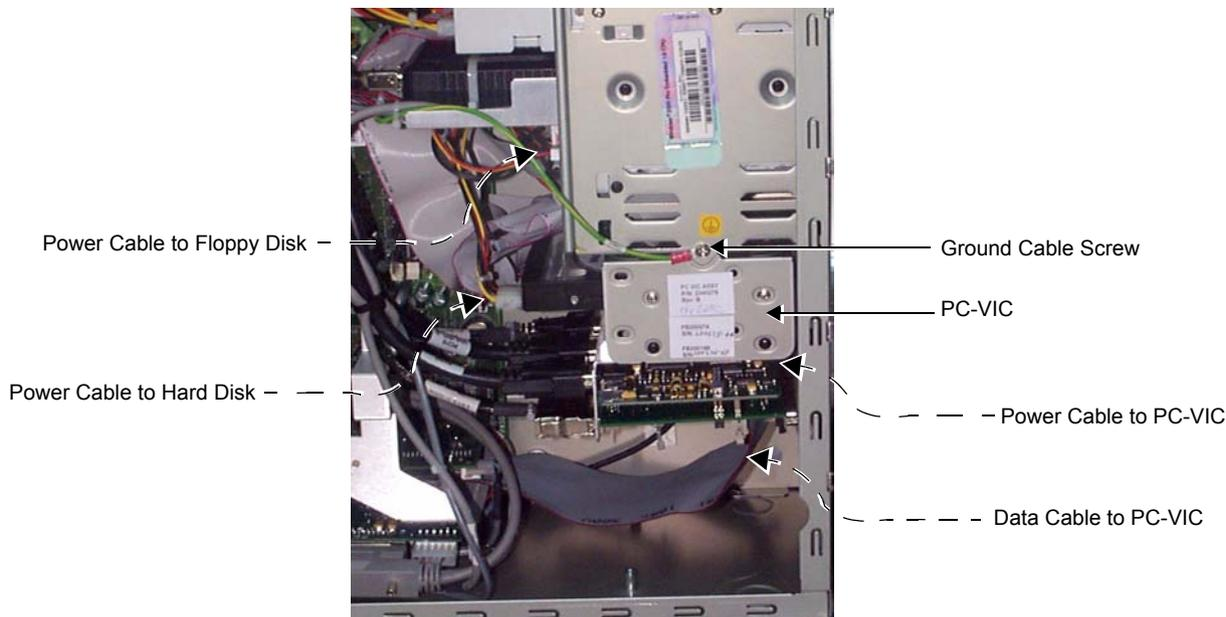

Figure 8-62 Disconnecting Cables
13.) Remove the screw that fastens the Ground cable and PC-VIC in position, as shown in Figure 8-62 below.
14.) Disconnect the power cable from the Hard Disk (labelled [4] in Figure 8-61); refer also to Figure 8-62.
15.) Disconnect the data cable from the PC-VIC (refer to Figure 8-62, above).
16.) Slide the PC-VIC & hard disk out sufficiently to be able to cut any cable ties and disconnect the power cable (labelled [5] in Figure 8-61) from the PC-VIC; refer also to Figure 8-62, above.
- 17.) Disconnect the power cable from the Floppy Disk (labelled [6] in Figure 8-61); refer also to Figure 8-62, above.
- 10.) Return the Ground cable and screw that fastens the PC-VIC in position, as shown in Figure 8-62 on page 8-77.